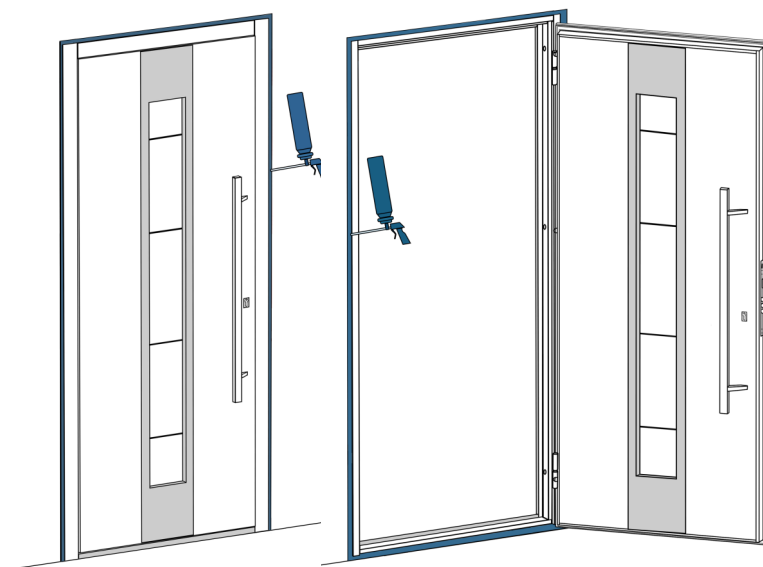

Figure 23
3.20. Blow off the filling places from dust and brick chips. Moisten the wall surface with a spray gun and fill the mounting clearance with mounting foam (figure 23).